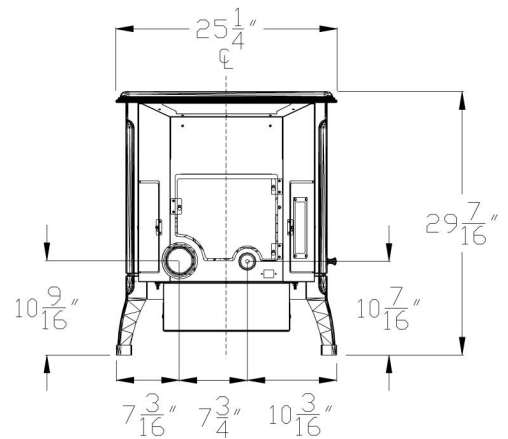
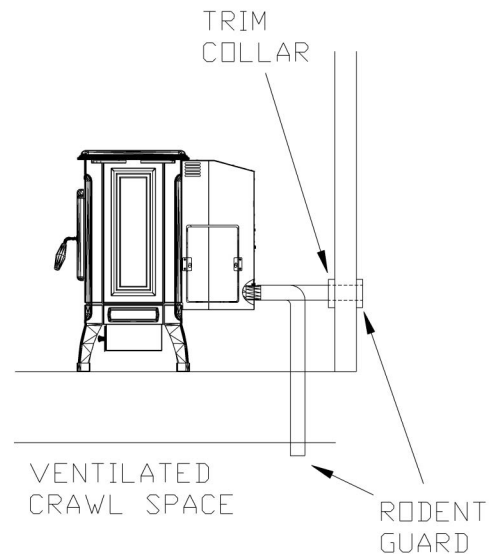

FIGURE 4
FIGURE 5
For a mobile home installation the stove must be connected to an outside source of combustion air. A 2" inside diameter metallic pipe, either flexible or rigid, may be attached to the inlet at the stove's rear (refer to figure 4). A rodent guard (minimum ¼" wire mesh)/wind hood must be used at the terminus (refer to figure 5). All connections must be secured and airtight by either using the appropriately sized hose clamp and/or UL-181-AP foil tape.
2. Locate position of hole in wall; directly behind stove exhaust vent (refer to figure 4).